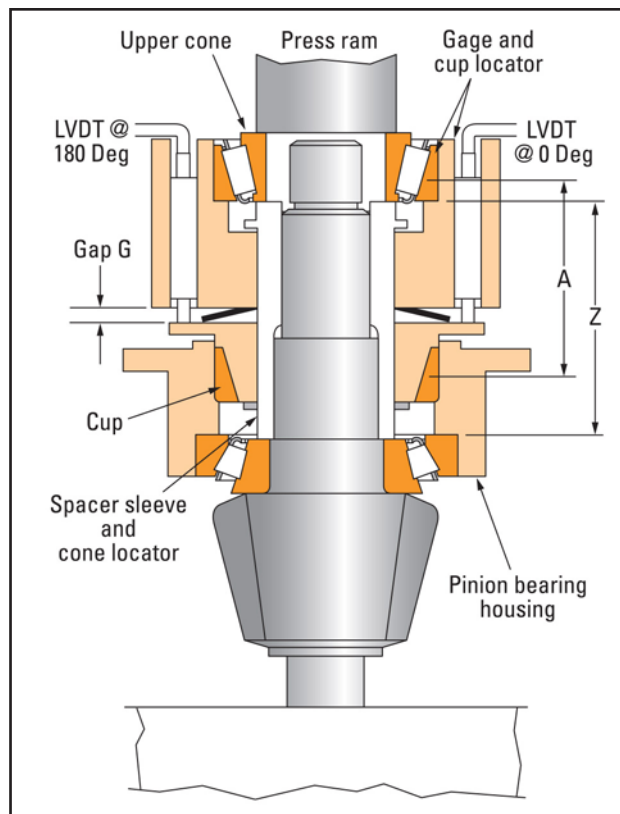

Figure 13 PROJECTA-SET Gauging Example With Pinion Shaft
To illustrate the projecta-set method, reference a typical spiral bevel pinion shaft assembly (Fig. 13). In this indirect-mounted, cone-adjusted design the bearing setting is achieved through the use of a spacer located between the two cone front faces. The cups and cones are tight-fitted in this application; the required gauging steps are:
onto the upper bearing cup and apply the upper bearing cone (Fig. 13).
4. The spacer size is determined by the gauge based on the formula (Fig. 13): $S = Z - A + K$